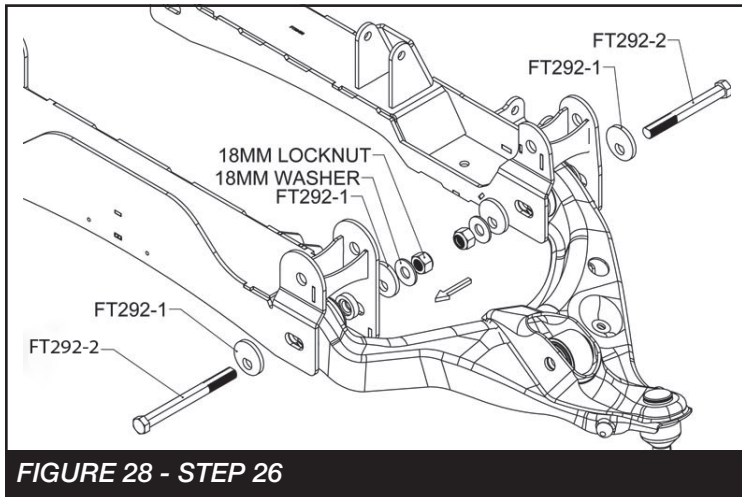

FIGURE 28 - STEP 26
26. Locate the Alignment cam kit (FT292). Locate the factory control arms. Install the lower control arms into the Fabtech crossmembers using the hardware in the cam kit (FT292). Torque the cam bolts at 200 ft-lbs after alignment. Torque crossmember bolts to 200 ft-lbs. **SEE FIGURE 28**